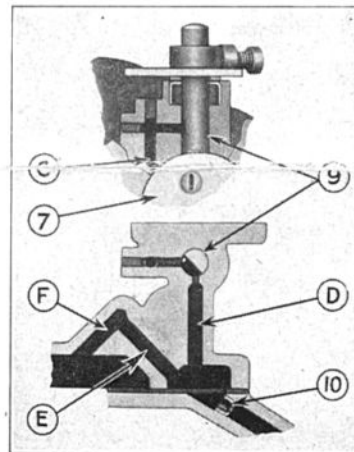

Figure 2
When the throttle is opened sufficiently to bring the throttle plate (7) just below the channel (C), approximately  $\frac{1}{4}$  open, a strong suction acts through channels (D), (E) and (F) thus holding back the fuel in the bowl and causing a lean mixture through the part throttle operation. The bowl ventilation from the intake of the carburetor is restricted by a bushing (10) (see Figure 2) thus preventing bowl ventilation from overcoming the suction from channels (C and D).